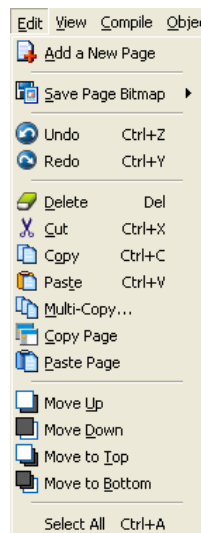

Figure 2-8 Menu bar—Edit
- **Edit:** It provides the functions needed for editing a project, as shown in Figure 2-8. Please refer to section 3.2 for more information.